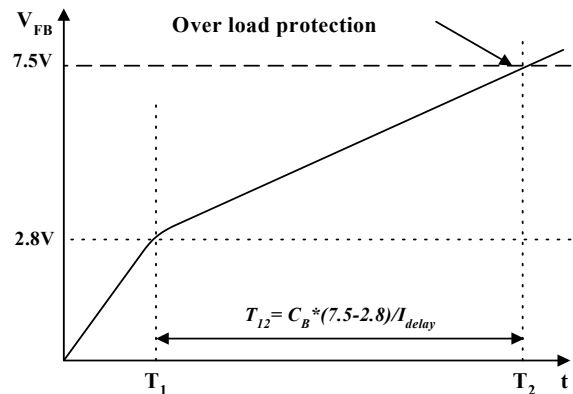

Figure 8. Over load protection
**3.1 Over Load Protection (OLP) :** Overload is defined as the load current exceeding its normal level due to an unexpected abnormal event. In this situation, the protection circuit should trigger in order to protect the SMPS. However, even when the SMPS is in the normal operation, the over load protection circuit can be triggered during the load transition. In order to avoid this undesired operation, the over load protection circuit is designed to trigger after a specified time to determine whether it is a transient situation or an overload situation. Because of the pulse-by-pulse current limit capability, the maximum peak current through the Sense FET is limited, and therefore the maximum input power is restricted with a given input voltage. If the output consumes more than this maximum power, the output voltage (Vo) decreases below the set voltage. This reduces the current through the opto-coupler LED, which also reduces the opto-coupler transistor current, thus increasing the feedback voltage (Vfb). If Vfb exceeds 2.8V, D1 is blocked and the 5uA current source starts to charge CB slowly up to Vcc. In this condition, Vfb continues increasing until it reaches 7.5V, when the switching operation is terminated as shown in Figure 8. The delay time for shutdown is the time required to charge CB from 2.8V to 7.5V with 5uA. In general, a 20 ~ 50 ms delay time is typical for most applications. This protection is implemented in auto restart mode.